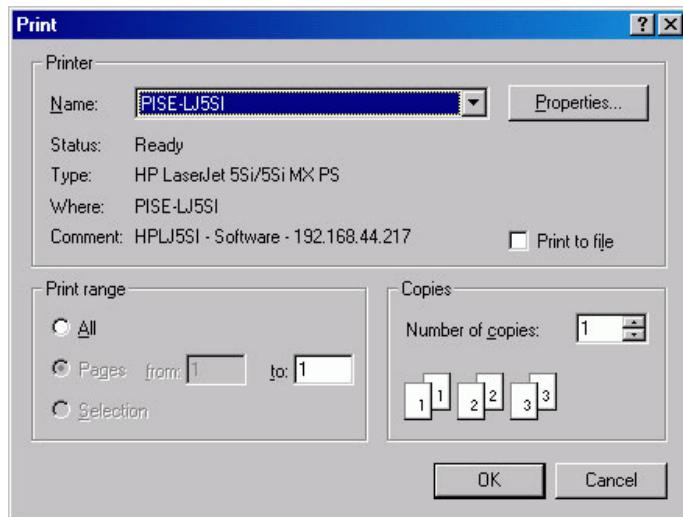

Figure 155. Print dialog box
1. From the File menu, open the Print dialog box (Figure 155).